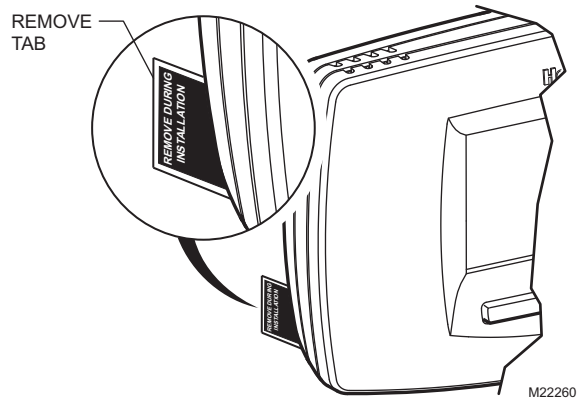

Fig. 24. Remove tab labeled REMOVE from thermostat back.
2. Locate and remove tab labeled Remove. See Fig. 24.